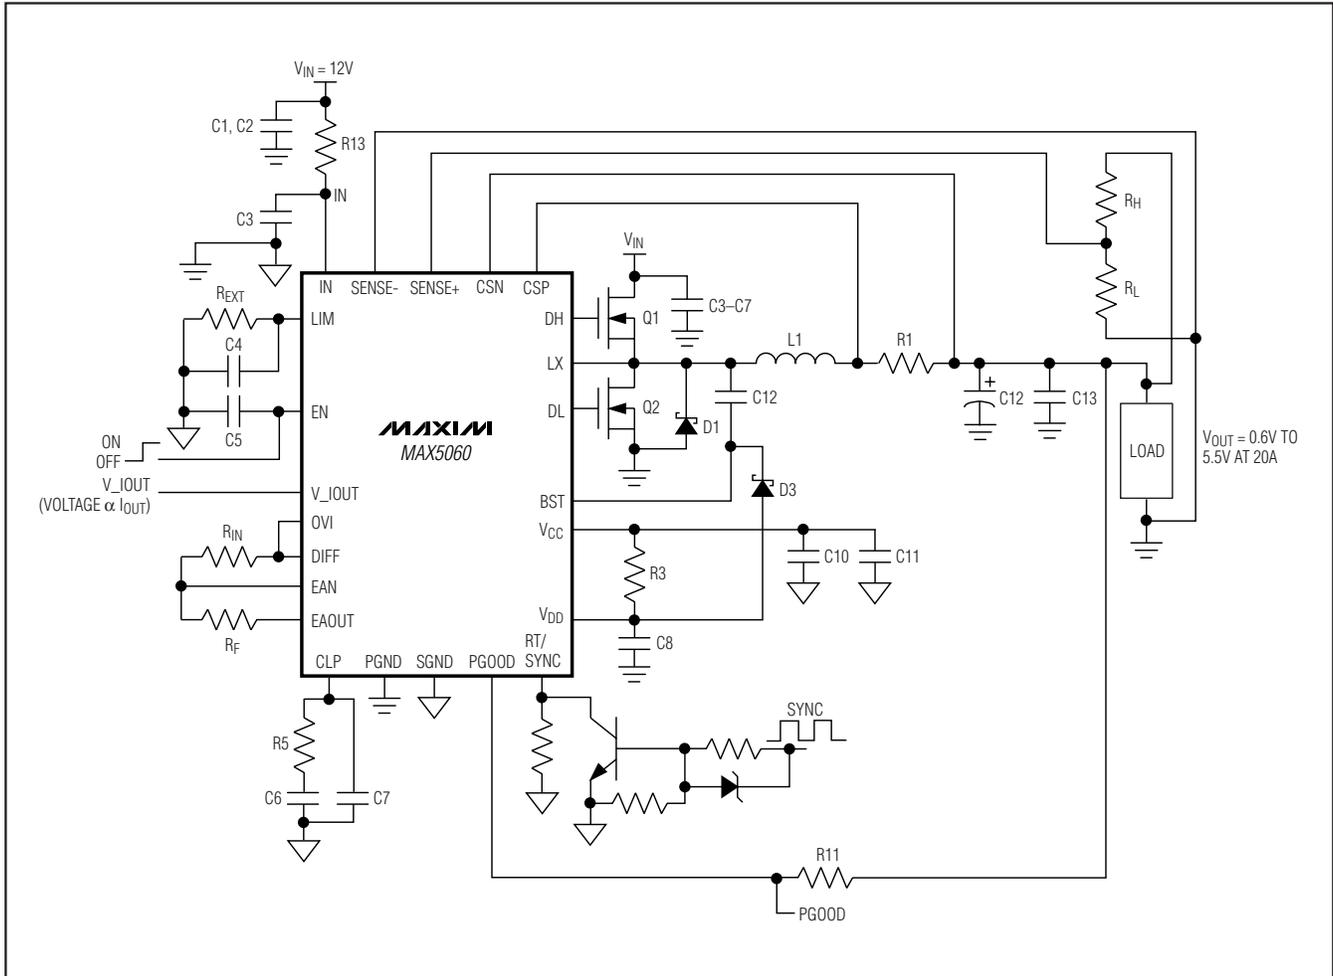

Figure 1. Typical Application Circuit,  $V_{IN} = 12V$  (MAX5060)
( $T_A = +25^\circ\text{C}$ , Figures 1 and 2, unless otherwise noted.)
The VEA output clamps to 930mV relative to the internally generated common-mode voltage ( $V_{CM}$ , 0.6V), thus limiting the maximum output current. The maximum average current-limit threshold is equal to the maximum clamp voltage of the VEA divided by the gain (34.5) of the current-sense amplifier. This results in accurate settings for the average maximum current for each phase. Set the VEA gain using  $R_F$  and  $R_{IN}$  (see Figures 1 and 2) for the amount of output voltage positioning required within the rated current range as discussed in the *Adaptive Voltage Positioning* section. The finite gain of the VEA introduces an error in the output voltage setting. Use the following equation to calculate the output voltage at no load condition.
The high-side (DH) and low-side (DL) drivers drive the gates of external n-channel MOSFETs (Figures 1 and 2). The drivers' 4A peak sink- and source-current capability provides ample drive for the fast rise and fall times of the switching MOSFETs. Faster rise and fall times result in reduced cross-conduction losses. For modern CPU voltage-regulating module applications, where the duty cycle is less than 50%, choose high-side MOSFETs (Q1) with a moderate  $R_{DS(ON)}$  and a very low gate charge. Choose low-side MOSFETs (Q2) with very low  $R_{DS(ON)}$  and moderate gate charge. Size the high-side and low-side MOSFETs to handle the peak and RMS currents during overload conditions.
The hiccup current limit overrides the average current limit. The MAX5060/MAX5061 include hiccup current-limit protection to reduce the power dissipation during a fault condition. The hiccup current-limit circuit derives inductor current information from the output of the current amplifier. This signal is compared against one half of VCLAMP(EA). With no resistor connected from the LIM pin to ground, the hiccup current limit is set at 90% of the full-load average current limit. Use REXT to increase the hiccup current limit from 90% to 100% of the full-load average limit (see Figures 1 and 2). The hiccup current limit can be disabled by connecting LIM to SGND. In this case, the circuit will follow the average current-limit action during overload conditions.